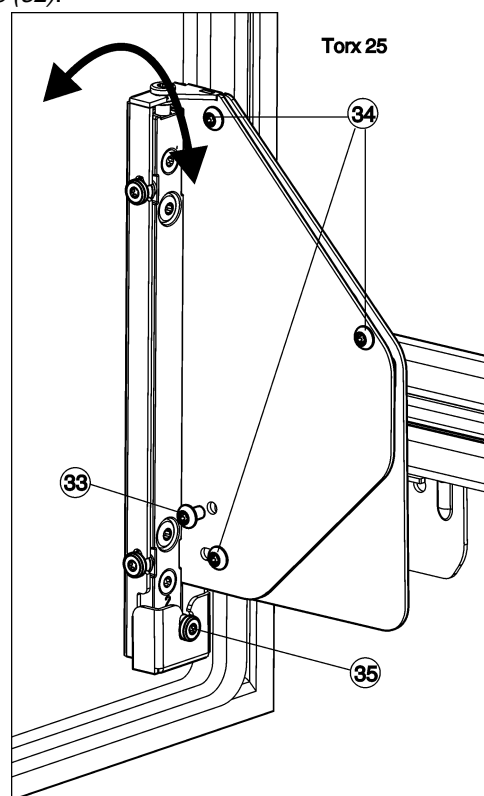

Fig. 27
- ▶ Fully unscrew the screws *Fig. 27 (33)*.
- ▷ Dispose of the screws *Fig. 27 (33)* as they will no longer be needed.
- ▶ Only loosen the screws *Fig. 27 (34)* with 1 to 2 turns.
- ▶ Turn the adjusting screw *Fig. 27 (35)*. In a clockwise direction: the top of the door tilts away from the appliance body. In an anticlockwise direction: the top of the door tilts towards the appliance and the bottom tilts away from the appliance body.
- ▶ After adjusting the inclination, retighten all screws *Fig. 27 (34)*.